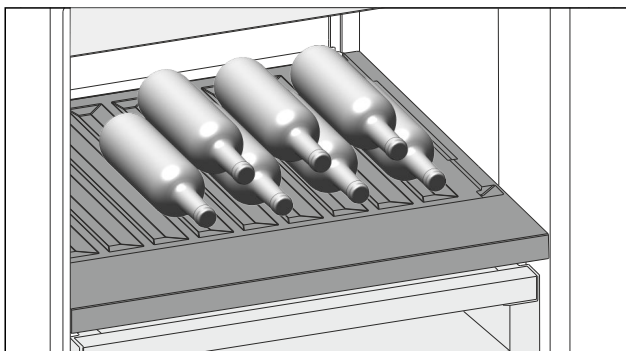

Fig. 227 Example illustration
- Place bottles in the back row with their bases against the back wall. (see Fig. 227)